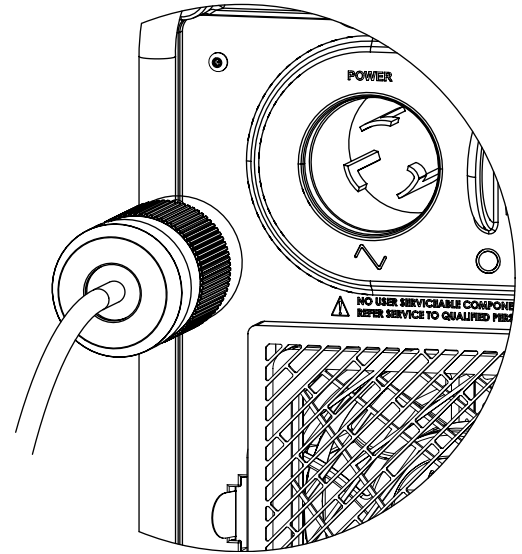

Fig. 6—Connecting the Power Cord
2. Make sure the power switch on the left side of the M200 power supply is in the OFF (O) position.
3. Connect the power cord to the power connector on the side of the unit (Fig. 6). Turn the connector a quarter-turn clockwise to lock it in place.